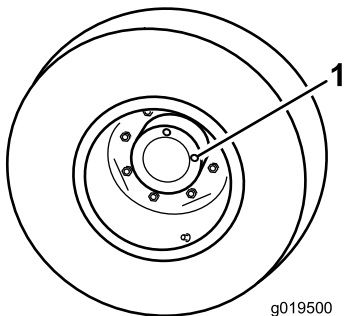

Figure 65
1. Position the machine on a level surface and position the wheel so 1 check plug (Figure 65) is at the 12 o'clock position and the other is at 3 o'clock position.
1. Check/drain plug (2)
2. Remove the plug at the 3 o'clock position (Figure 65).